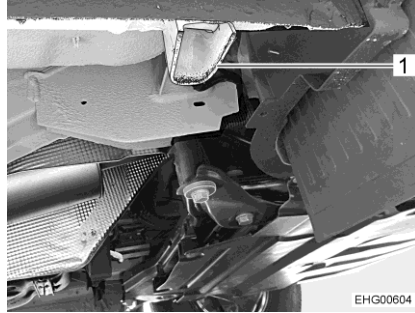

Fig. 245 Front axle mount
- If a wheel on the front axle is to be changed: apply the vehicle jack on the jacking point provided for this purpose (Fig. 245,1).